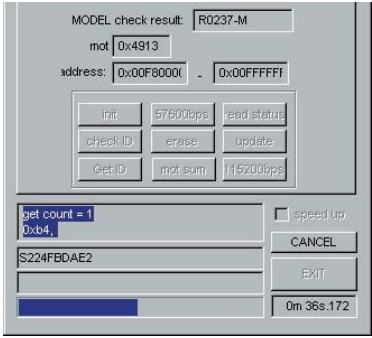

Fig. 3
7. Click [E.P.] to start writing. (Fig. 3)
8. When writing is completed, "Program Finished!" is displayed. (Fig. 3)
Click [OK]. (Fig. 3)
9. Click [EXIT] to end "DSP_FLASHER_v3.0_M16 C80.exe". (Fig. 3)
(Fig. 3)
[OK]をクリックします。(Fig. 3)
9. [EXIT]をクリックし、"DSP_FLASHER_v3.0_M16 C80.exe"を終了します。(Fig. 3)